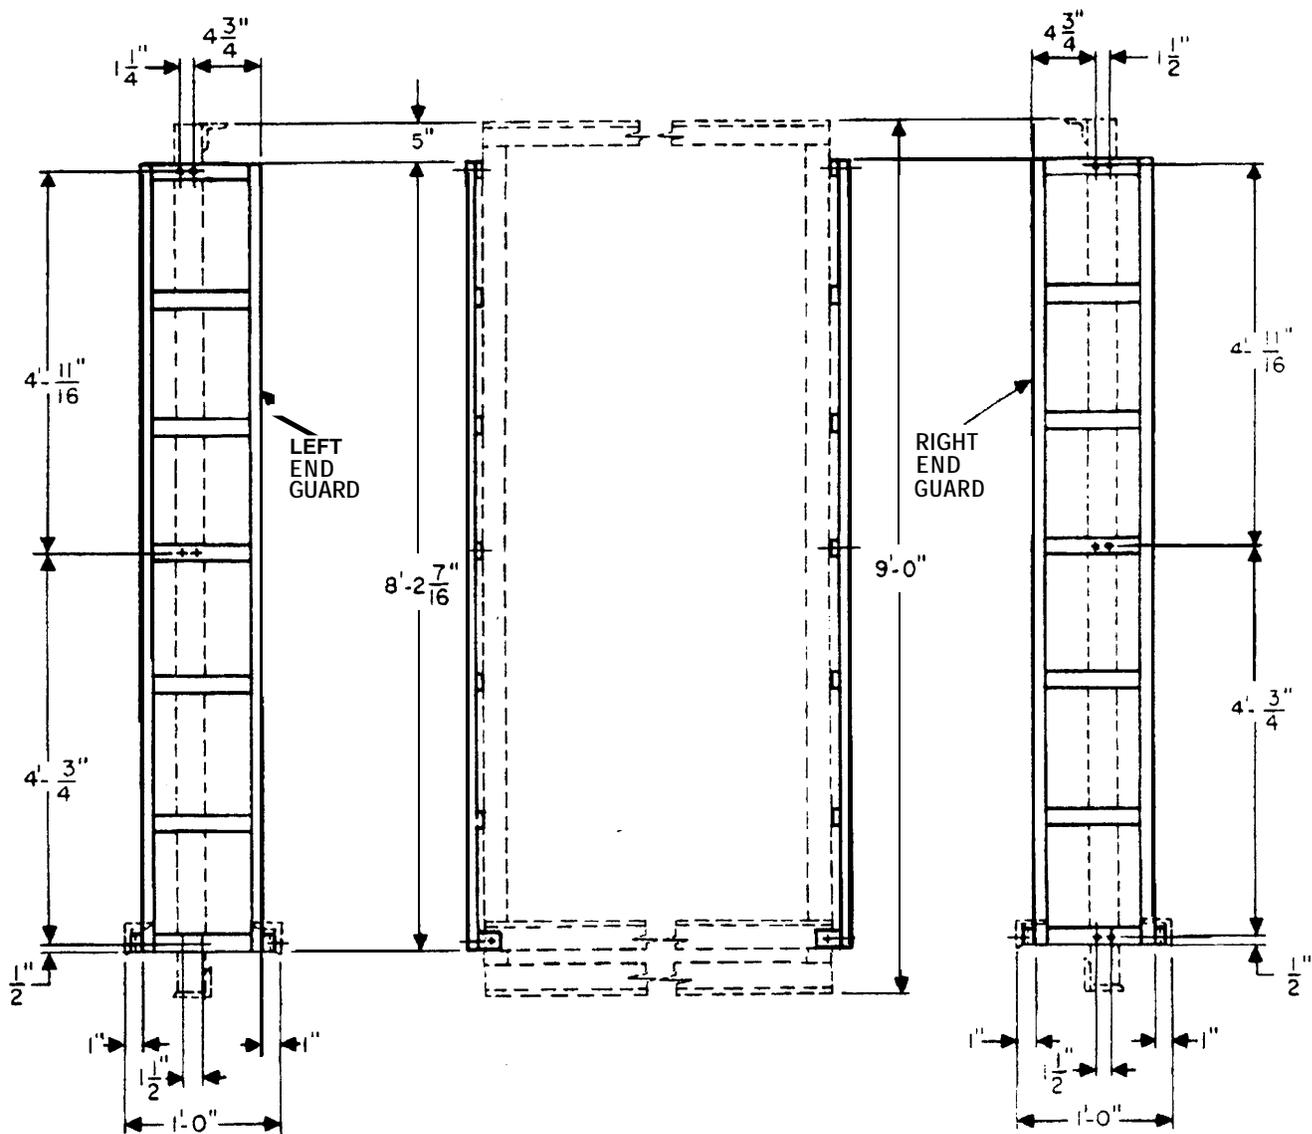

Figure 29. Mounting End Guards.
9.02 The correct method of mounting end guards (ladder guards) is shown in Figure 29. In some cases, end guards will not be installed until the other equipment has been mounted. This is usually done as a temporary measure during hanging of shelves- or other operations where end guards may hamper